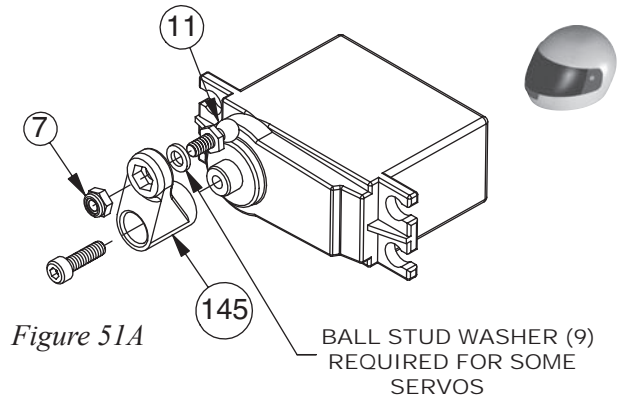
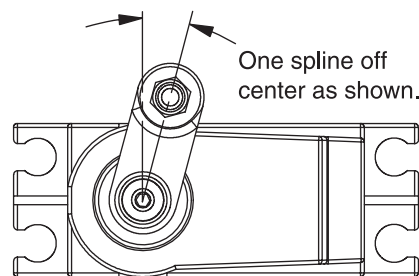

Figure 51A
Figure 51B
- 1. Using Table 52B (on the following page), determine which Servo Arm (145) (found on the Steering tree, previously used in Bag A) is required for your Servo. If your particular Servo is not listed, try using the Arm recommended for another Servo made by the same manufacturer.
Some Servos may require the use of a Ball Stud Washer (9) placed behind the Ball Stud (11) for proper Servo Link alignment, as shown in Figure 51A.
- 2. Insert a 4-40 Mini-Locknut (7) into the hex area on the back side of the Servo Arm. Thread a 3/16" Ball Stud (11) through the hole in the Servo Arm, into the Locknut, and tighten.
- 3. Plug the Servo into the radio system's receiver (*not included*). Make sure that there is power to the Receiver, and turn the transmitter on followed by the Receiver. Be sure that the trim settings for the steering on your transmitter are set to the center. With the radio system still turned on, attach the Servo Arm to the output shaft so that the Arm is one spline off center in the direction shown in Figure 51B. Secure the Servo Arm using the screw supplied with the Servo.